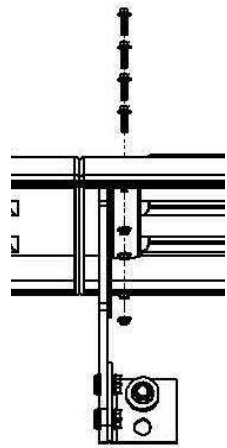

Figure 14
- D. Drill four 5/16" holes through the fender using the holes in bracket PB5071 as a guide (Figure 14).